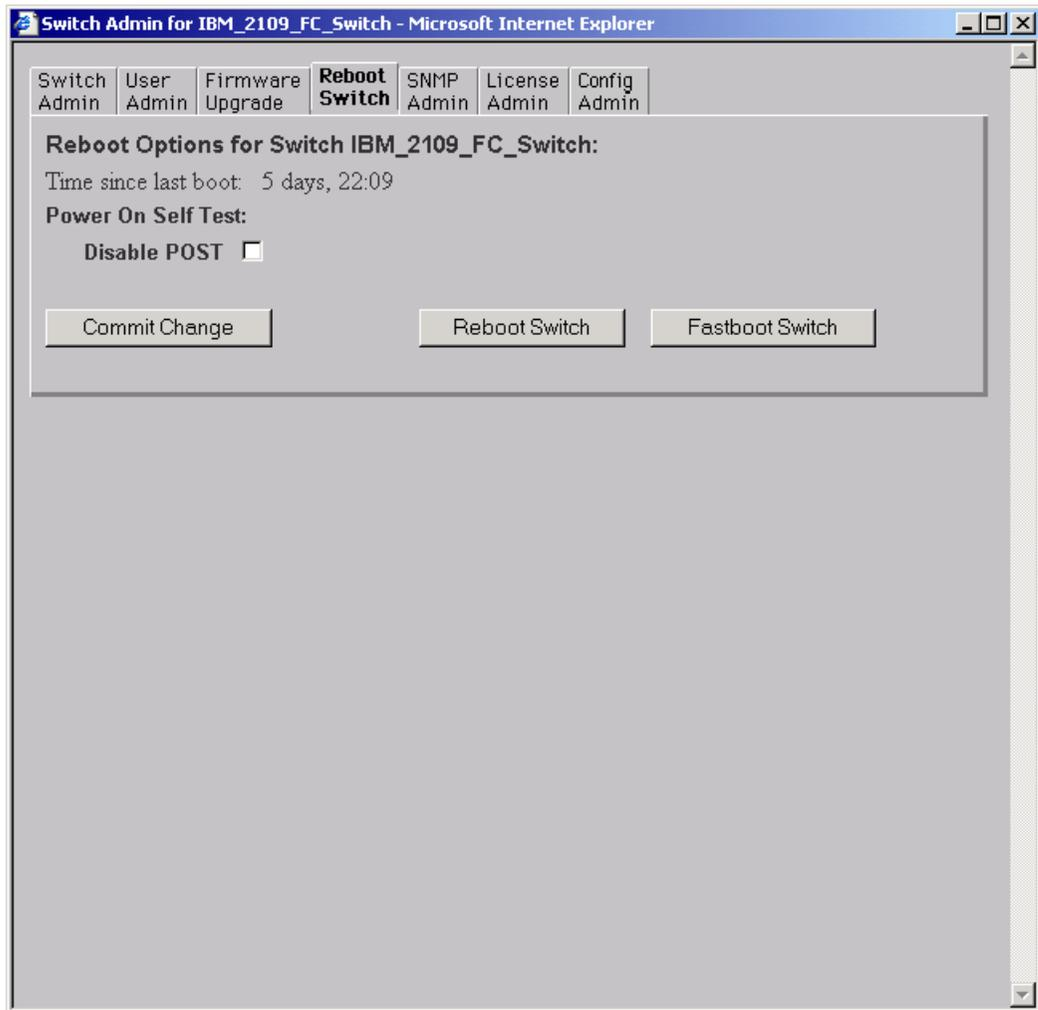

Figure 4-10 Reboot switch
8. The Reboot Switch tab is displayed as shown in Figure 4-10: